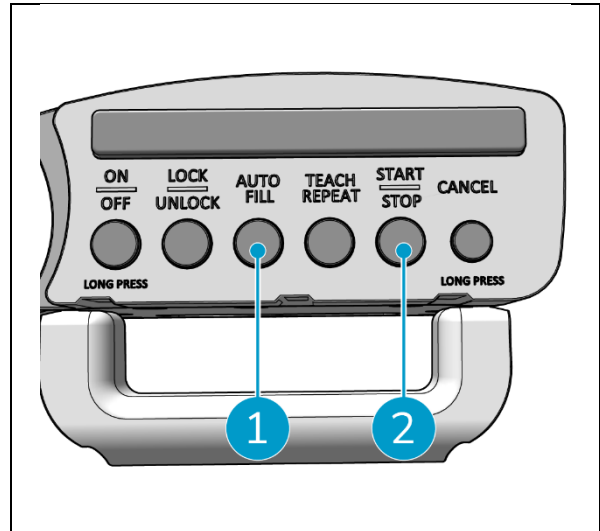

Figure 24
1. Press the Auto Fill button (Figure 24, pos. 1). The Auto Fill button will be white.
2. Guide the i-walk around the boundary of the area you want to clean. When you arrive at the starting point, the Start/Stop button (Figure 24, pos. 2) will flash blue.